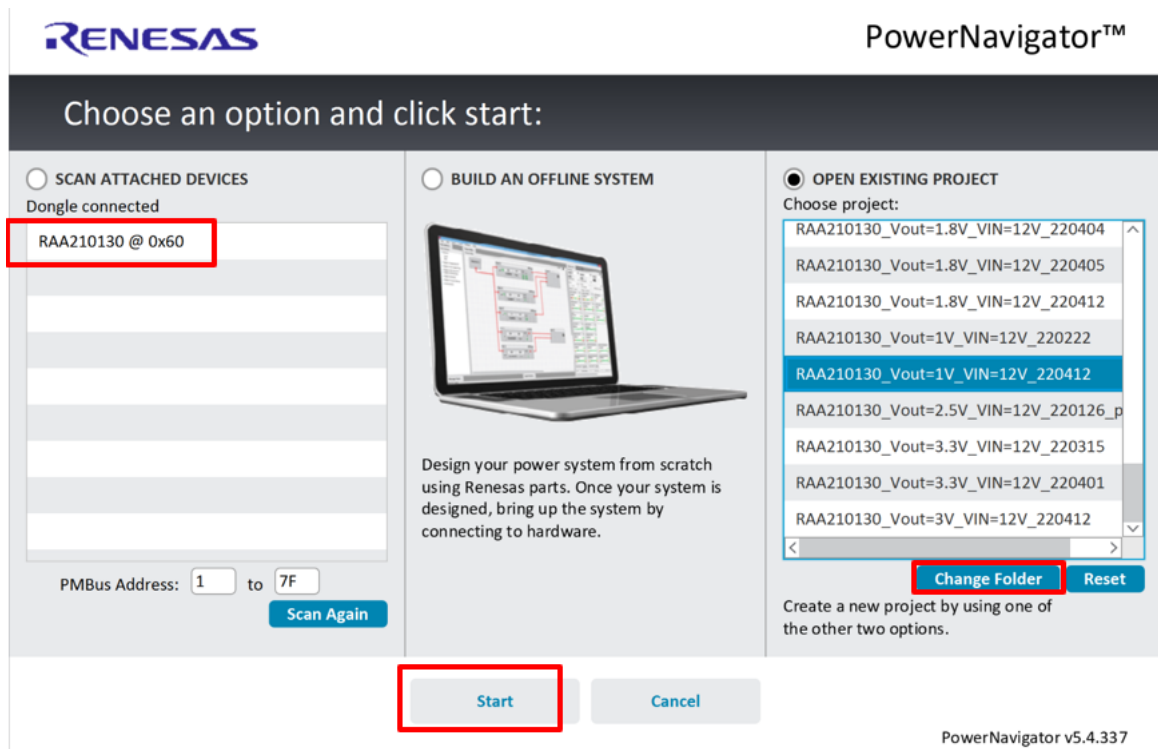
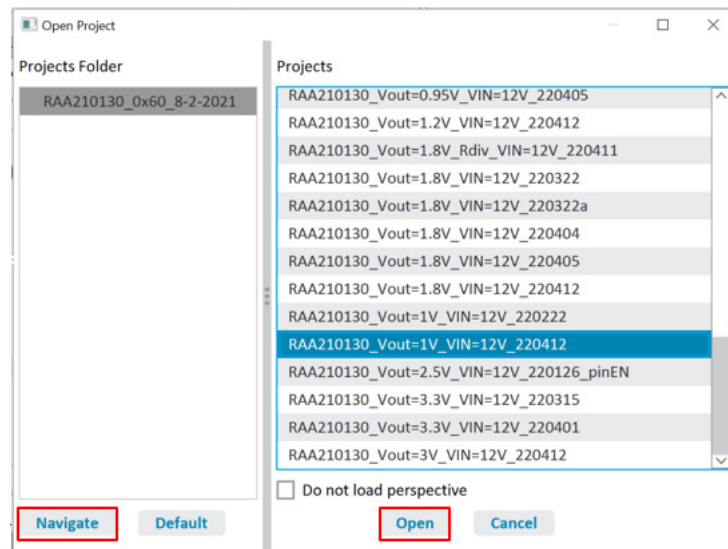

Figure 2. First screen of Power Navigator. Observe RAA210130 Module Part Number and Address
Figure 3. Open Project Window for Navigating to the Location where the Configuration File is Stored
- Observe module part number and I2C address(0x60) under the scanned devices as shown in Figure 2.
- Click on **Open Existing Project** as shown in Figure 2. Click on **Change Folder** if the configuration file is not in the current folder. A window called **Open Project** pops up as shown in Figure 3. Click on **Navigate** to navigate to the folder where the configuration file is stored. Select a project on the right-hand side to write to NVM. Select **Open**.